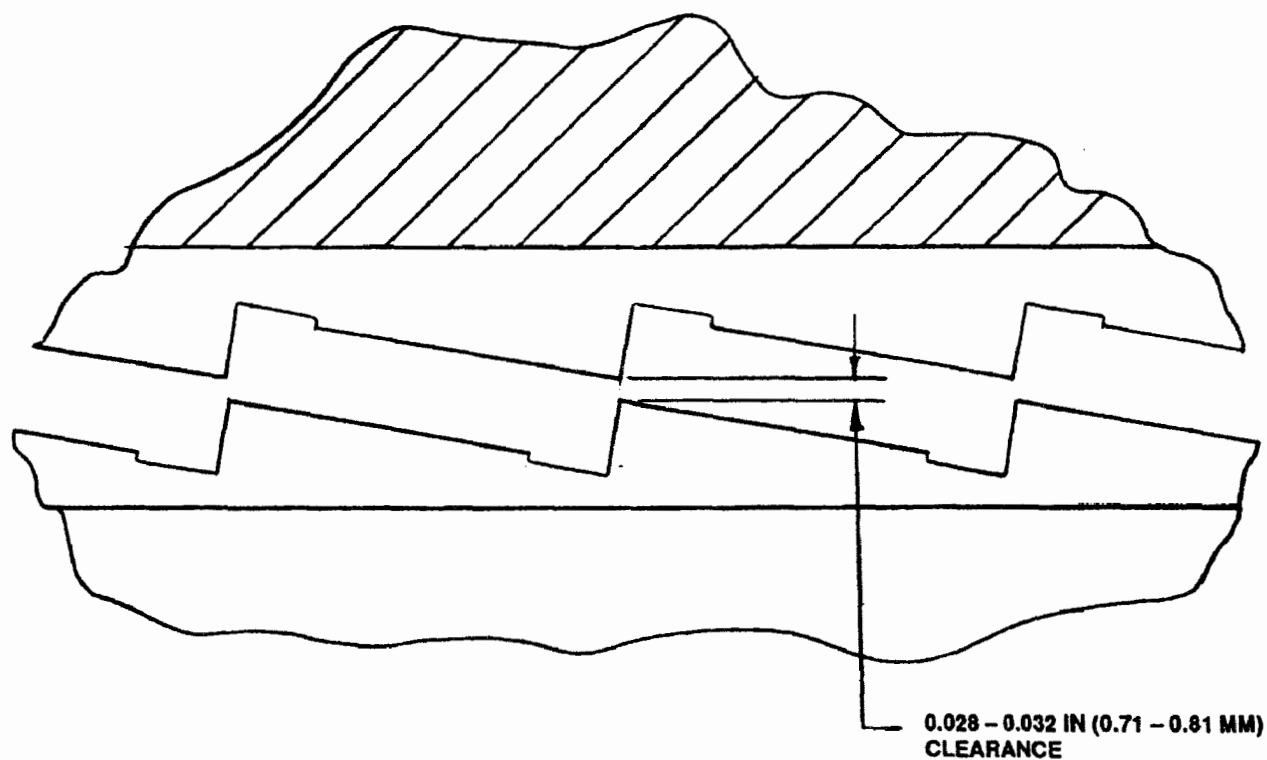

Figure 5. Output Shaft Jaw to Clutch Jaw Tooth Clearance
- 15** Add shims, part numbers, 732243-1 thru 732243-7. Make sure the clearance between the tops of the teeth of the output shaft jaw face and the tops of the teeth of the clutch jaw face is 0.028 to 0.032 inch (0.71 to 0.81 mm). Hold the clutch jaw to make sure that no axial movement occurs when the clearance is measured. Refer to Figure 5.